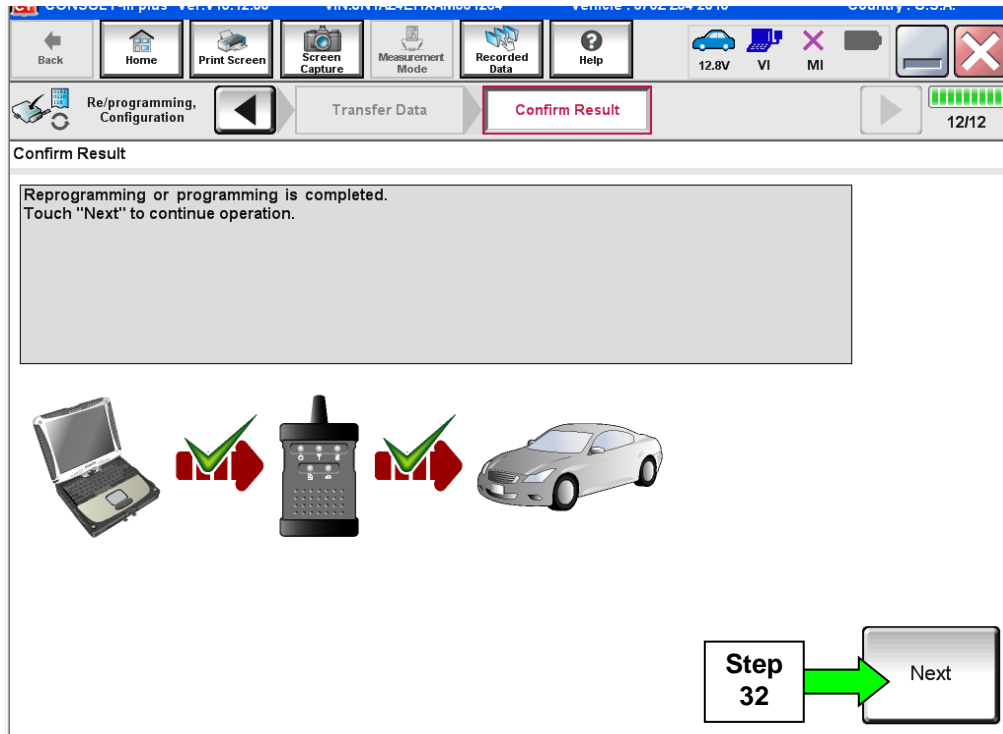

Figure 17
30. When the screen in Figure 17 displays, the reprogramming is complete.
NOTE: If the screen in Figure 17 does not display (reprogramming does not complete), refer to the information on the next page.